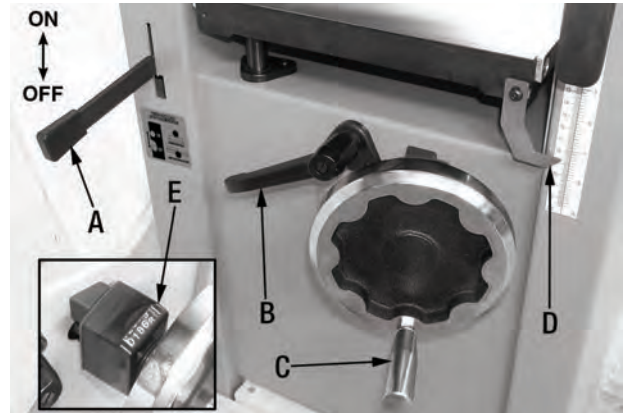

FIGURE 7
1. **Using the Power Feed Handle:** The power feed handle (A) Fig.7 in the downward position is set to "OFF" (Jointer mode). To turn the power feed "ON" for Planer mode, pull the power feed handle to the left and then lift it up as shown.
2. **Using the Planer Table Lock:** Turn the planer table lock handle (B) Fig.7 counterclockwise to unlock the table to allow the table height to be adjusted, turn the planer table lock handle clockwise to lock the table in place.
3. **Table Height Adjustment:** To adjust the table height, first unlock the planer table handle (B) Fig.7. The table height adjustment handwheel (C) Fig.7 can be rotated clockwise to raise the table, and counterclockwise to lower the table. Each full revolution of the handwheel will move the table $5/32"$. The depth of cut is indicated on the scale by the pointer (D), and by the value (millimeters) on the handwheel depth of cut display (E), located behind the handwheel.